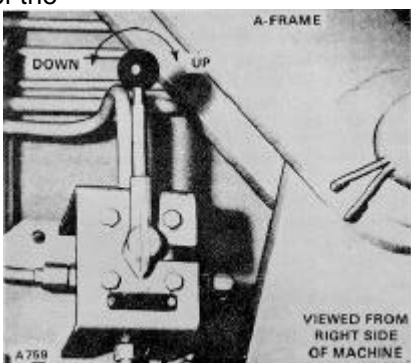

Figure 2-10. Gantry Control Valve
53. **GANTRY CONTROL VALVE.** The gantry control valve is provided to assist in raising and lowering the gantry (see Figure 2-10). This valve is located on the right side of the